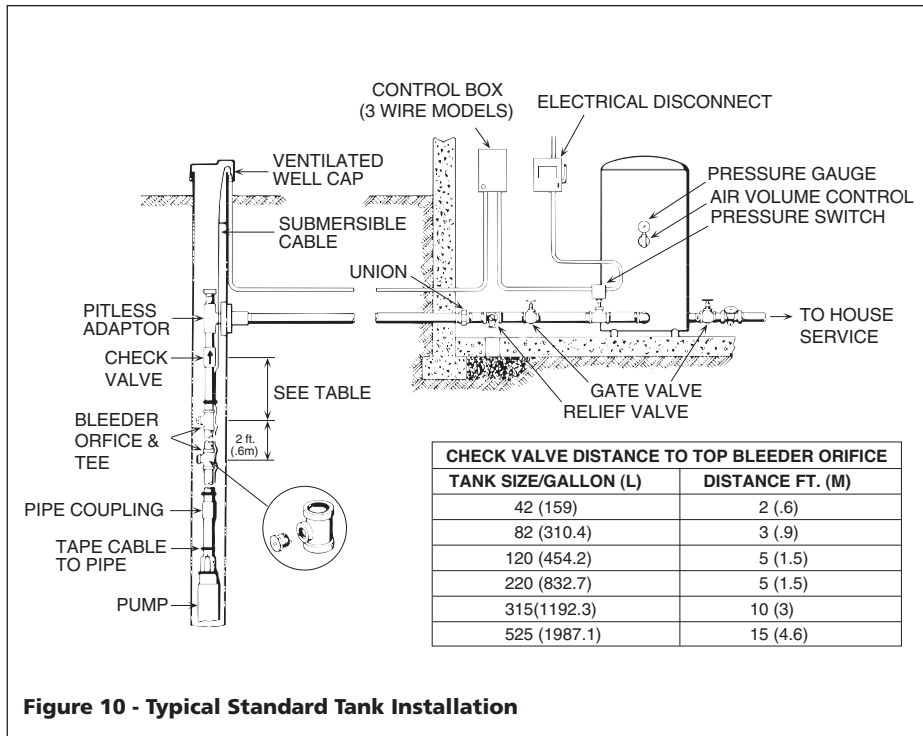

Figure 10 - Typical Standard Tank Installation
1. If standard air-over-water pressure tank is used, install two bleeder orifices about 2 ft. (0.6 m) apart as shown in Figure 10, on page 6. Orifices will automatically charge the tank with air. See Figure 10 to help determine orifice location.
See Figure 10, on page 6, for illustration of piping connections to standard pressure tank as well as distance between air release ports and tank.